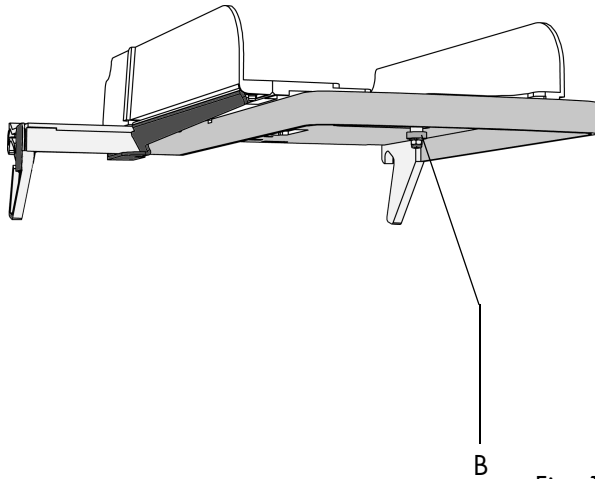

Fig. 14
- loosen the knob B half a turn (fig. 14).